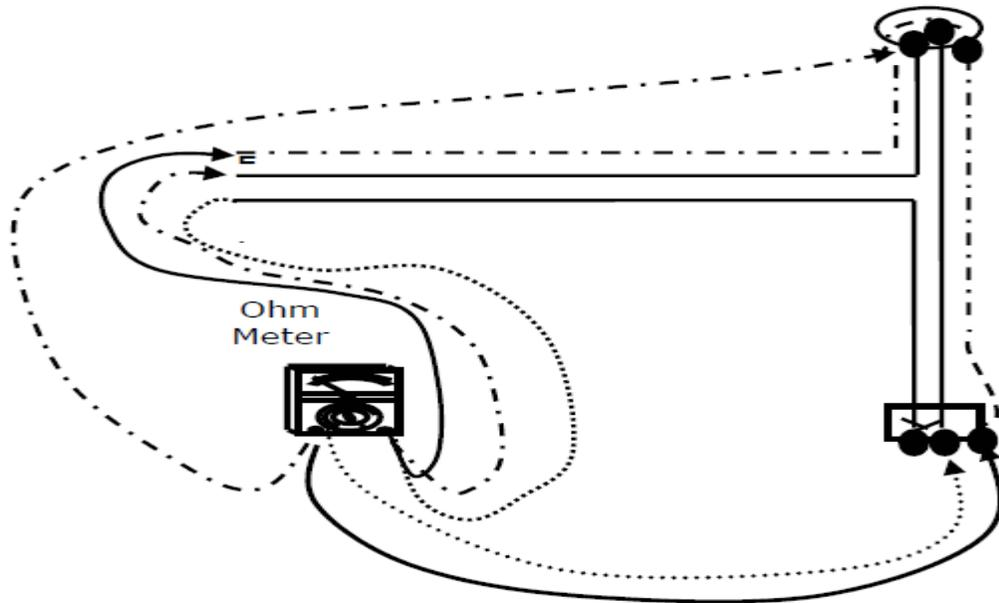

Figure 6.4 : Live and Neutral Conductor Continuity Test
5. Carry out the test as shown in Figure 6.4